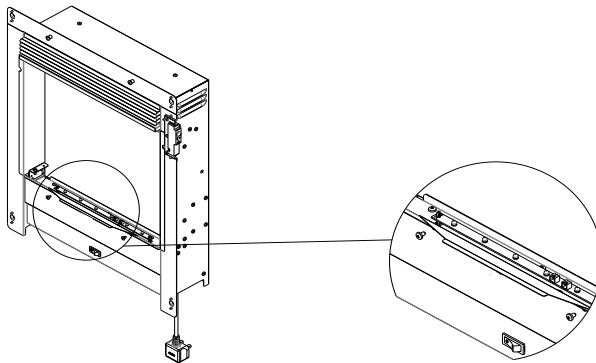

Figure 3
- The fuel bed reflector plate is fixed behind the front panel with two ST4 x 8 self-tapping screws fastened from the front as shown below in figure 3